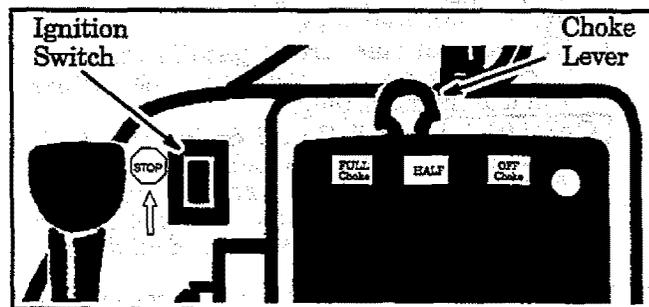

Figure 9
- Move ignition switch (Figure 9) to the on position.
- Move Choke to "Full Choke" position. Figure 9.
- Move Choke to "Half Choke" position. Figure 9.
- Allow engine to run 5 seconds, then push Choke to "Off Choke" position. Figure 9. *Keep Throttle Trigger squeezed until engine runs smoothly.*
NOTE: If engine does not start, pull Starter Rope 5 more pulls. If engine still does not run, it is probably flooded. Wait a few minutes and repeat procedure with Choke at "Off Choke" position. Figure 9.
NOTE: If engine does not run after 5 pulls, it is probably flooded. Wait a few minutes and repeat procedure with Choke at "Off Choke" position. Figure 9.
- Move Choke to "Off Choke" position. Figure 9.